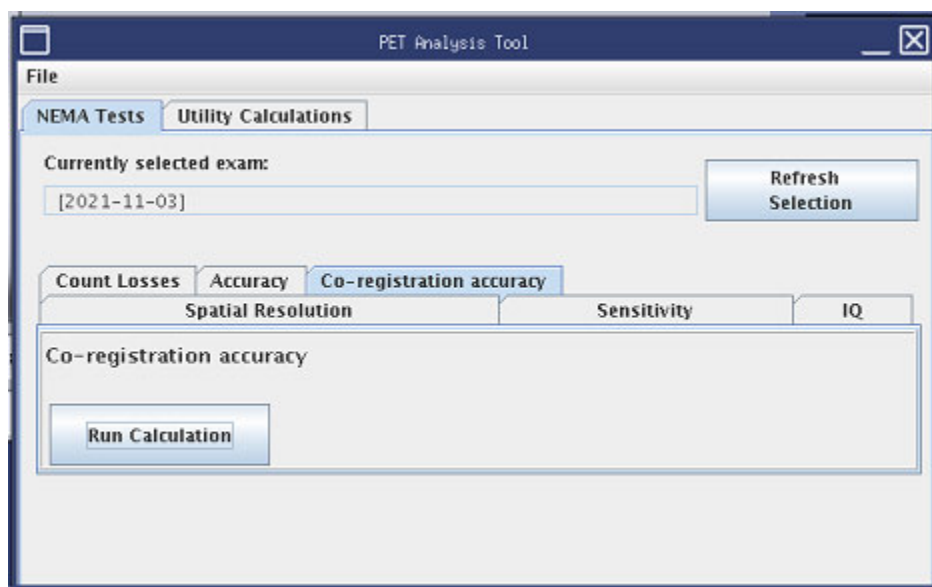

Figure 7.4: PET Analysis Tool – PET-CT co-registration tab selected
4. Click *NEMA ANALYSIS TOOL* to open the PET Analysis Tool panel (Figure 7.4).
9. Refer to Figure 7.4. Click *RUN CALCULATION*.